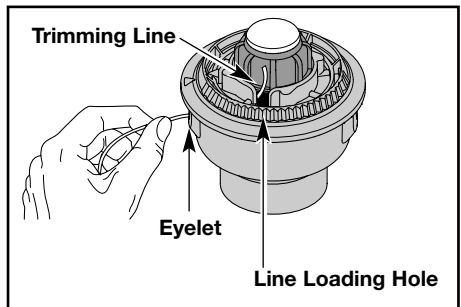

Fig. 18
**NOTE:** Before installing new trimming line onto the existing inner reel, remove any old line from the SpeedSpool by pulling the line out of the line loading or locking holes (See Figs. 18 and 19 for location of holes).
2. Insert **10 feet (2.5 m)** for models with **.080 in (2.03 mm)** of trimming line and **15 ft (4.5 m)** for models with **.060 in (1.52 mm)** line into one of the two eyelets and push it up through the line loading hole in the inner reel (Fig. 18). Do not bend the line when inserting it into the eyelet.